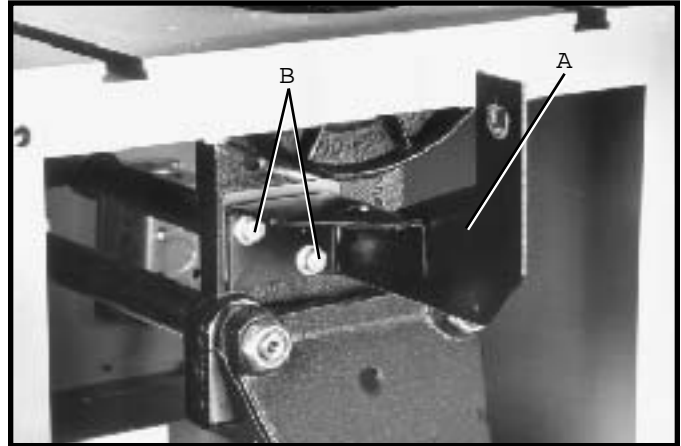

Fig. 25
1 Fasten the rear splitter mounting bracket (A) Fig. 25, to the rear trunnion using the two 3/4" hex head screws (B) and flat washers. Do not completely tighten the two screws (B) at this time.